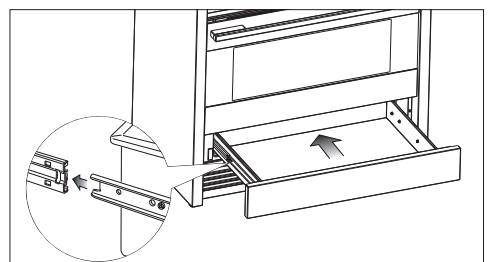

Fig. 7 Replacing the drawer
- 6 Replace the drawer (Fig. 7):